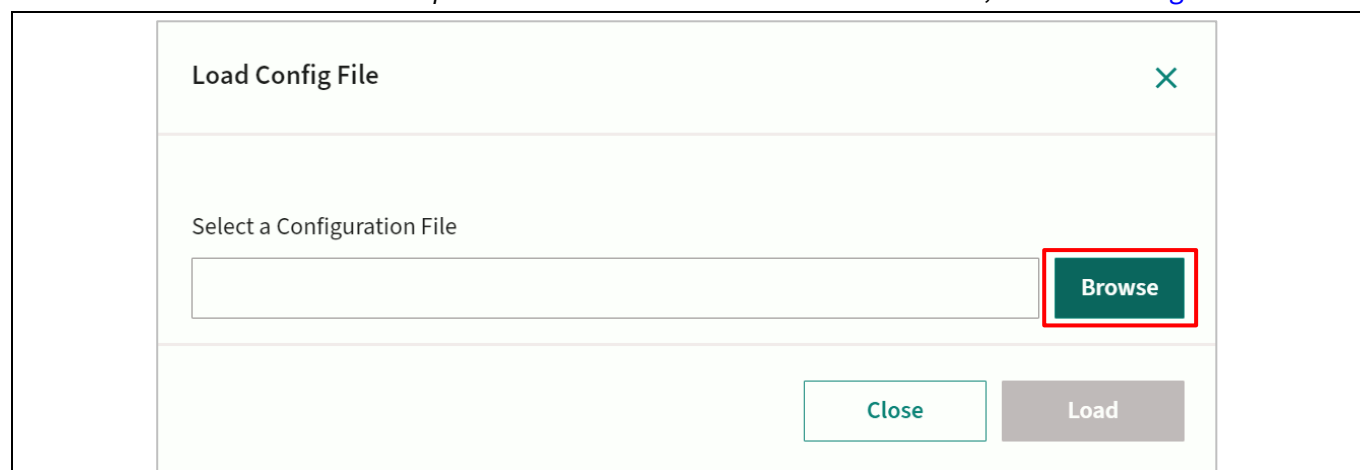

Figure 23 Browse to select the necessary configuration file
2. Click **Browse** and select the *.xdp* file that needs to be loaded onto the device, as shown in Figure 23